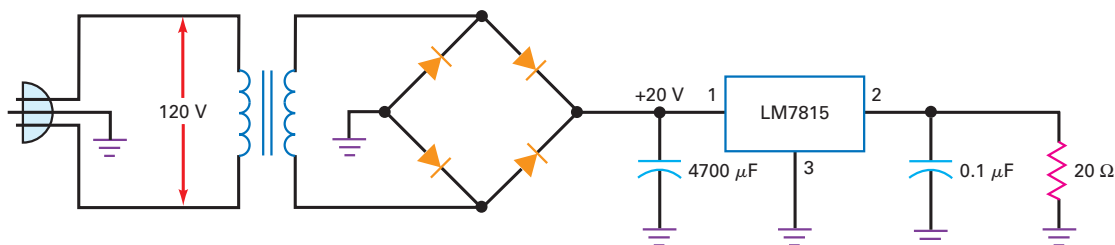

Figure 39-31 Example.
- 39.8 What is the load current in Fig. 39-31? The headroom voltage? The power dissipation of the LM7815?
- 39.9 What is the output ripple in Fig. 39-31?